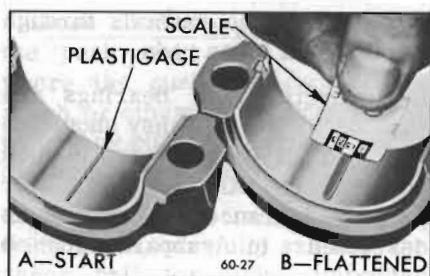

Figure 60-122—Checking Bearing Clearance with Plastigage
2. Place a piece of Plastigage lengthwise along the bottom center of the lower bearing shell (Figure 60-122, View A). Install cap with shell and tighten bolt nuts to 35 lb. ft. torque.
5. Using the scale printed on the Plastigage envelope, measure the flattened Plastigage at its widest point. The number within the graduation which most closely corresponds to the width of Plastigage indicates the bearing clearance in thousandths of an inch. See Figure 60-122, View B.